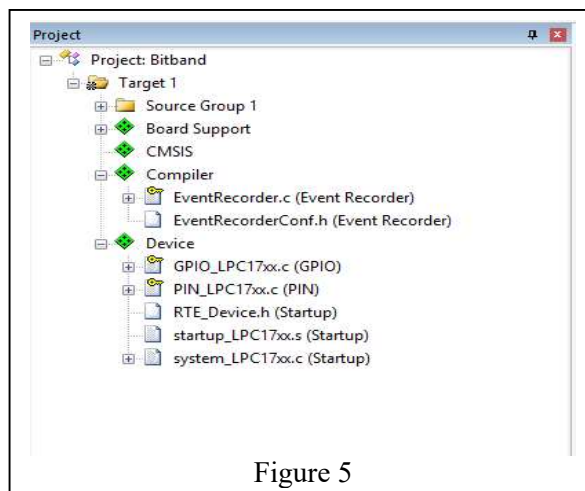

Figure 5
5. Now your Project files should look like the Figure 5 given below.